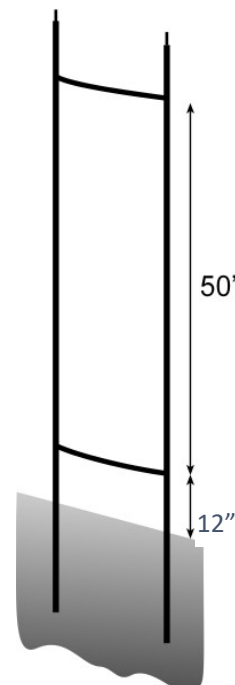

Figure 6: Position of the Spacer Bars
17. Attach 2 spacer bars to each of the uprights. The lower spacer bar should be positioned 12" above ground level, then position the other spacer bar 50" above the lower spacer bar, as shown in Figure 6.